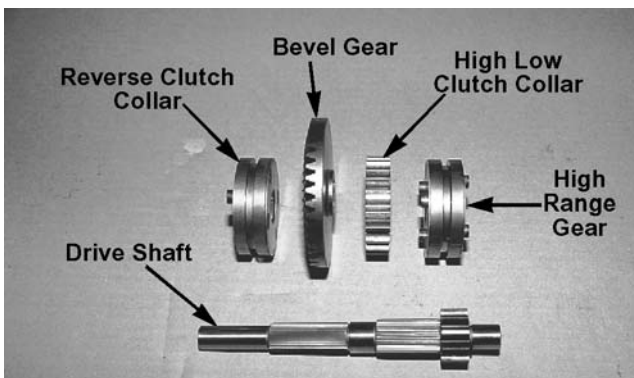

Figure 5-85
44. Install the high low clutch collar onto the drive shaft making sure that the pins line up with the gear teeth. Install the high range gear. Install the bevel gear with the hub towards the high range gear. Install the reverse clutch collar with the pins facing away from the bevel gear. See Figure 5-85.